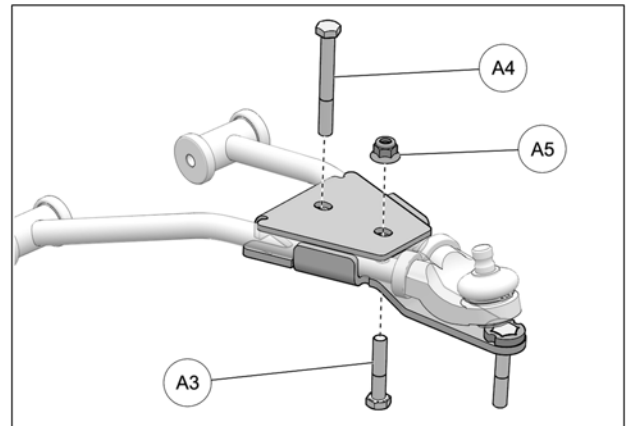

Fig. 17
6. From the top, insert M10x85mm bolt (A4) through bracket cover and bottom part. Insert M10x50mm bolt (A3) through the bottom and secure the two parts together with nut (A5) provided. Tighten assembly to 50 N•m [37 lb•ft] of torque. See Fig. 17